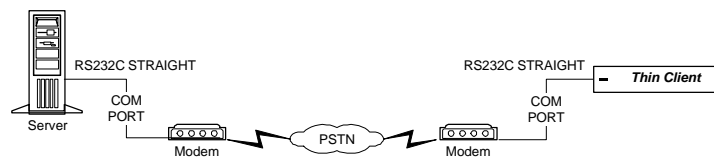

Figure 7 Dial-In Remote Connection through Modem
- If Dial-In Remote Connection through modem is desired, connect RS232 straight cable from a Thin Client serial port to a supported modem which is in turn connected to a telephone line (See Figure 7).